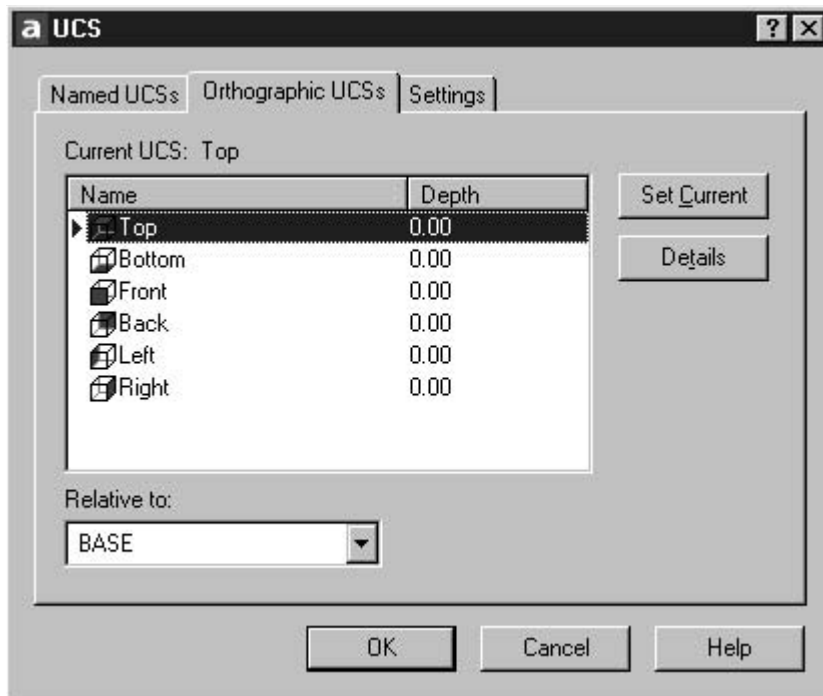

Figure 5.6 The UCS dialogue box – Orthographic tab active.
- 4. pick Set Current – Fig. 5.6